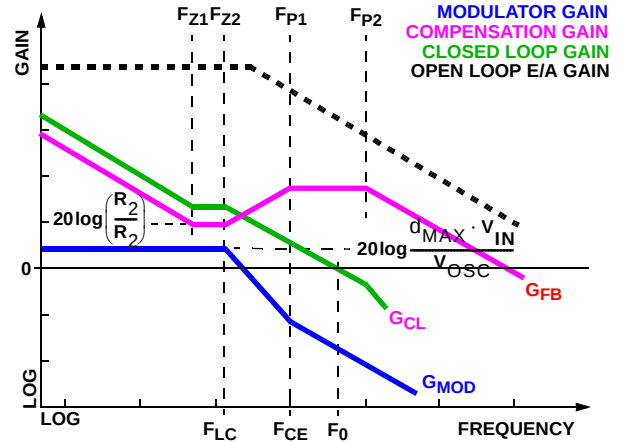

FIGURE 9. ASYMPTOTIC BODE PLOT OF CONVERTER GAIN
Figure 9 shows an asymptotic plot of the DC/DC converter's gain vs. frequency. The actual Modulator Gain has a high gain peak dependent on the quality factor (Q) of the output filter, which is not shown. Using the above guidelines should yield a compensation gain similar to the curve plotted. The open loop error amplifier gain bounds the compensation gain. Check the compensation gain at F_{P2} against the capabilities of the error amplifier. The closed loop gain, G_{CL} , is constructed on the log-log graph of Figure 9 by adding the modulator gain, G_{MOD} (in dB), to the feedback compensation gain, G_{FB} (in dB). This is equivalent to multiplying the modulator transfer function and the